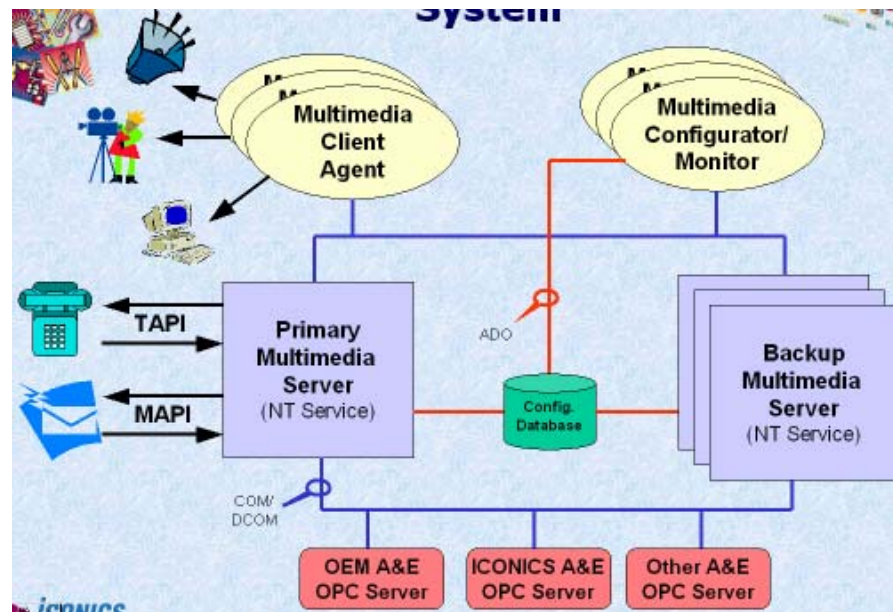

Figure 1.1. Overview of AlarmWorX Multimedia
Figure 1.1 provides an overview of how AlarmWorX Multimedia enables you to send and receive alarms using various multimedia agents. The Smar AlarmWorX Multimedia Configurator is a database with a user interface that allows you to configure alarms, alarm action sets, multimedia agents, and alarm acknowledgement codes. You can also use the Multimedia Configurator to create subscriptions to OPC Alarm and Event (AE) servers. In addition, you can configure schedules and destinations for alarm notification messages.